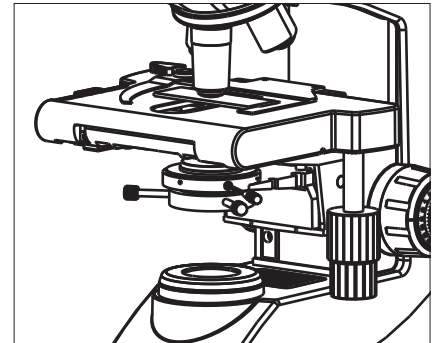

Fig. 2
2. Secure the darkfield condenser by tightening the thumbscrew provided as shown in Fig. 2